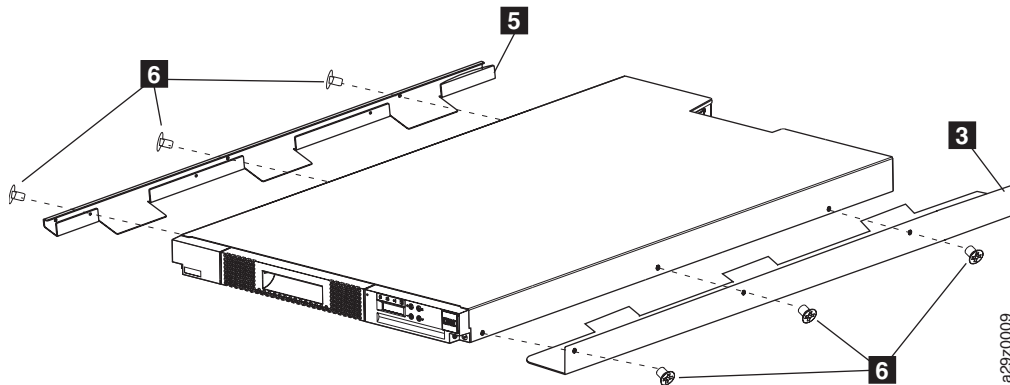

Figure 8-16. Removing side rails from the library chassis
12. Remove the flat-head screws **6** on each side to remove the left **5** and right **3** rails from the chassis (Figure 8-16).